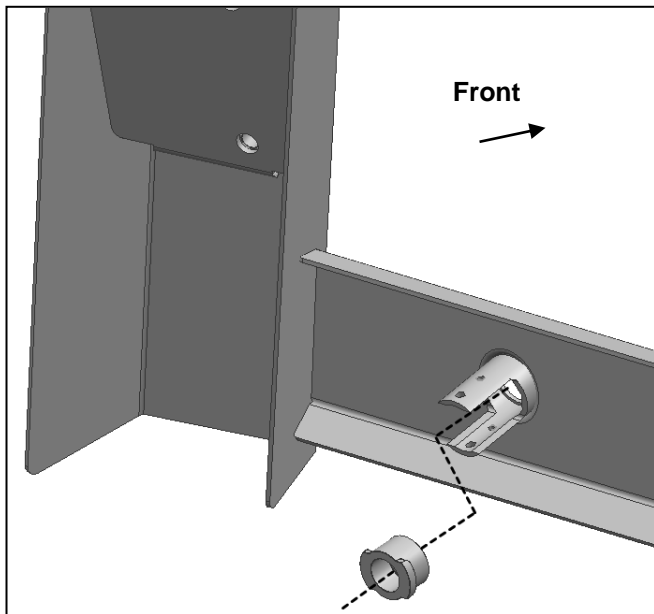

**Fig 10**
6. With assistance, hold up the assembled Bull Bar to the Bull Bar Brackets. Align the (2) bottom holes on the Uprights with the Brackets. Bolt the assembled Bull Bar to the Brackets with (4) 10mm x 25mm Hex Bolts, (4) 10mm Lock Washers and (4) 10mm x 30mm Flat Washers, **(Figures 10 & 11)**.